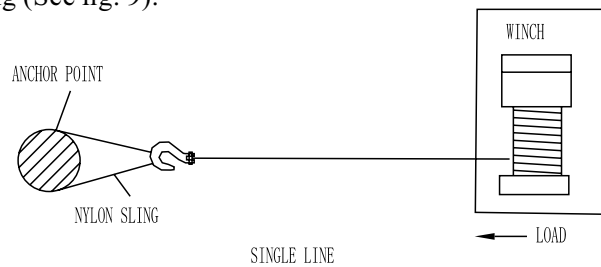

Fig. 9
1. The most commonly used rigging. A nylon sling is used to protect the tree when it is used as an anchor, and the wire rope is attached to use the sling (See fig. 9).